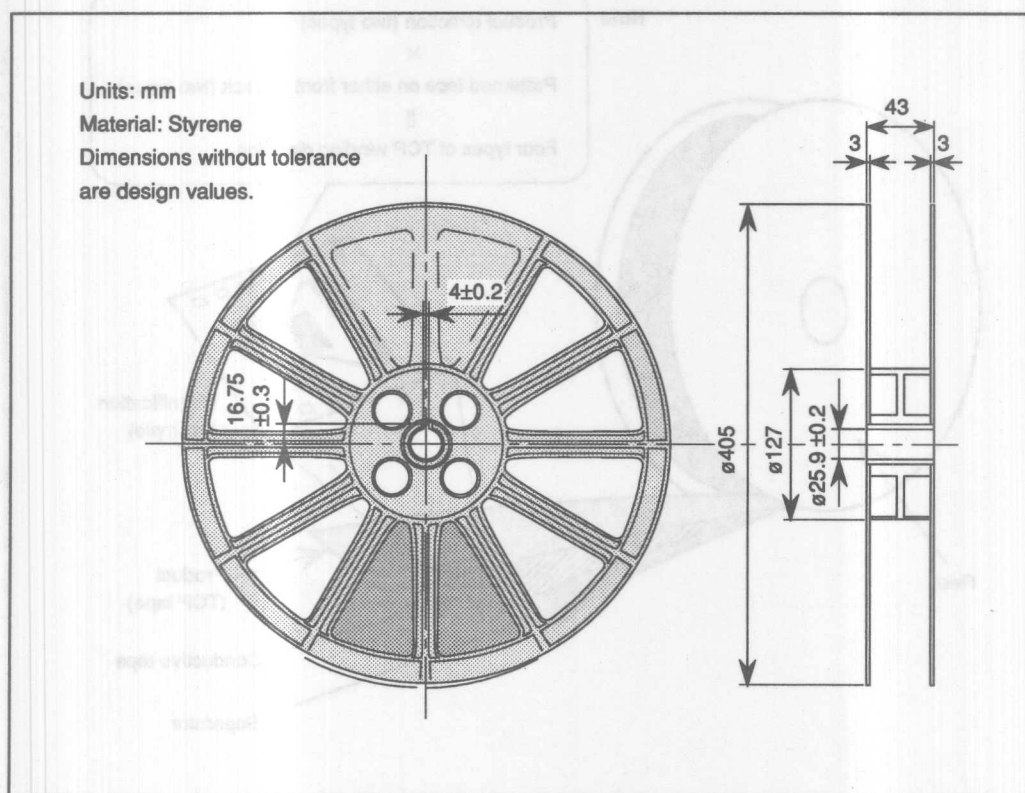

Figure 7 Reel Dimensions
**Reel Specification:** Figure 7 shows reel dimensions.